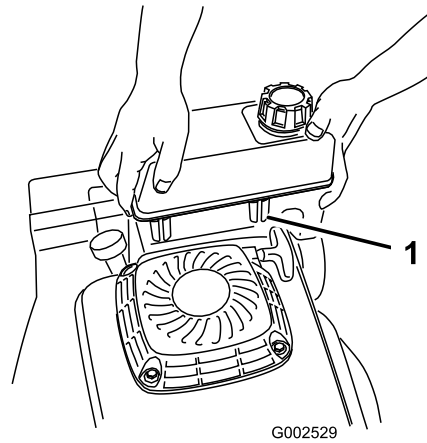

Figure 6
3. Hook the plastic clips on the front of the fuel tank onto the fuel tank bracket (Figure 6).